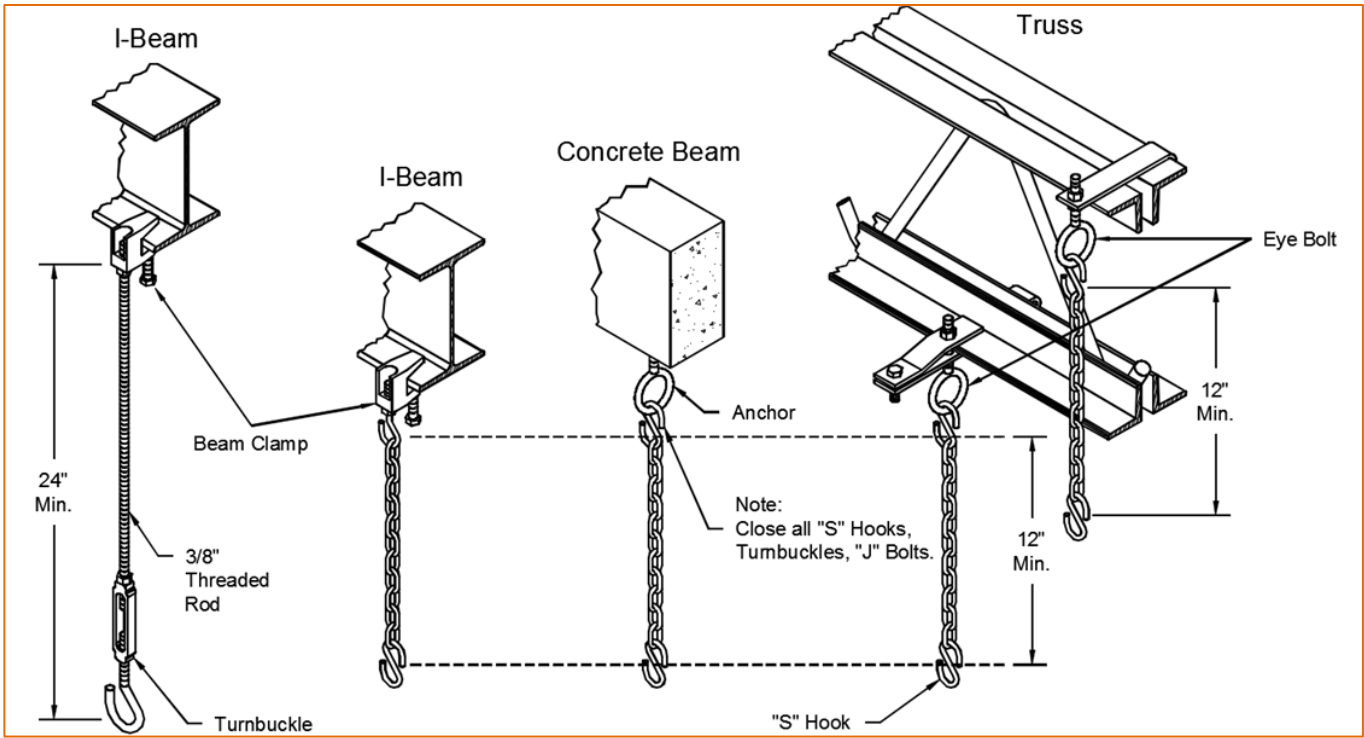

Figure 9: Ceiling Mounting/Hanging Options
1. Locate hanging chain at predetermined points in the structure using methods as shown in Figure 9. The first 2 hanging points are approximately 7.5 ft. (2300 mm) apart to fully support each end of the first Tube. Thereafter spacing of 10 ft. (3050 mm) is acceptable, i.e. one hanging point per Tube. Ensure that Reflector Hangers located on a Combustion Tube are within 8" (200 mm) of the Burner. Ensure that the mounting height allows a downward slope of $\frac{1}{4}$ " per 10 ft. (7 mm per 3000 mm) towards the Vacuum Pump location.